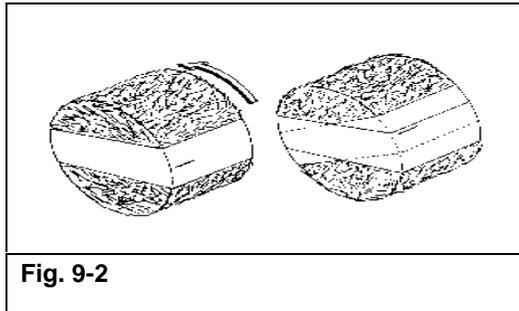

Fig. 9-2
- 8.1 Start the tractor and let it run at approx. 1000 revolutions per minute. Lift the machine clear of the ground. The oil flow to the wrap arm and lower Rollers is adjusted by two wheels which are situated at the front of the machines adjustment valve block. (See Fig. 9-2)
- 8.2 The Wheel (See Fig. 9-2) to the top is used to adjust speed of the wrapping arm.
Load a bale on to the machine. To be able to adjust correct overlap, you have to leave the tractor cab while wrapping. Check that the wrapping arm has a speed of approx. 22 revolutions per minute. If not, adjust this by turning the control valve for wrapping arm speed. (See Fig. 9.2). When the wrapping arm speed is OK, you can set the overlap.
Valve for wrapping arm, full speed	= Valve no. 6 (Fig. 9-2)